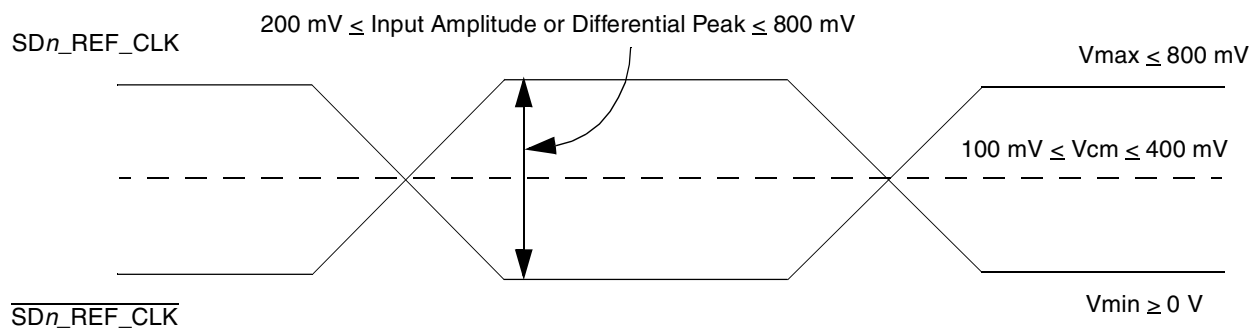

Figure 59. Differential Reference Clock Input DC Requirements (External DC-Coupled)
- For **external DC-coupled** connection, as described in section 2.20.2.1, the maximum average current requirements sets the requirement for average voltage (common mode voltage) to be between 100 mV and 400 mV. Figure 59 shows the SerDes reference clock input requirement for DC-coupled connection scheme.